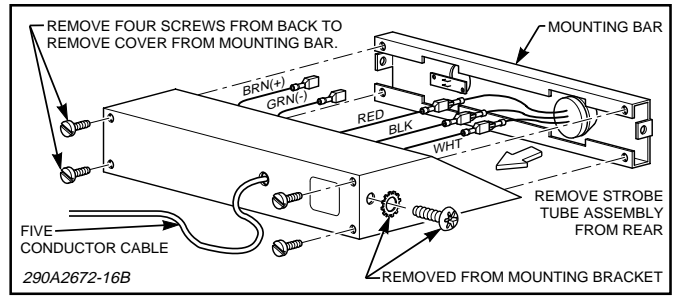

Figure 4.
The light assembly is supplied with a 3-foot cable. The cable conductors are color coded as shown in figure 4. Perform the electrical connections as follows:
c. See figure 4. Remove and retain the screws which secure the back cover to the mounting bar.